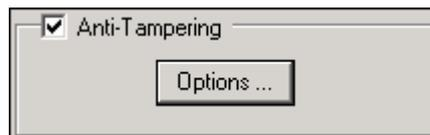

Fig. 41 *Anti-tampering* (sabotage detection) checkbox on the *Cameras* or *LAN cameras* tab
2. Mark the checkbox **Anti-tampering** (see "Fig. 41 ", page 51).